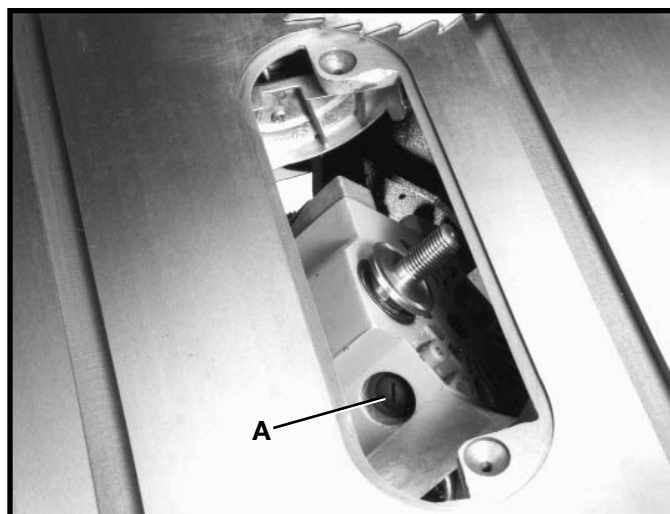

Fig. 63
2. Raise the motor to its maximum height and tilt the arbor to 45 degrees. One brush holder is shown at (A) Fig. 63.
4. To inspect the other brush, the saw must be turned upside down and placed on a flat non-scratch surface. The other brush is located 180 degrees from brush (A) Fig. 63.